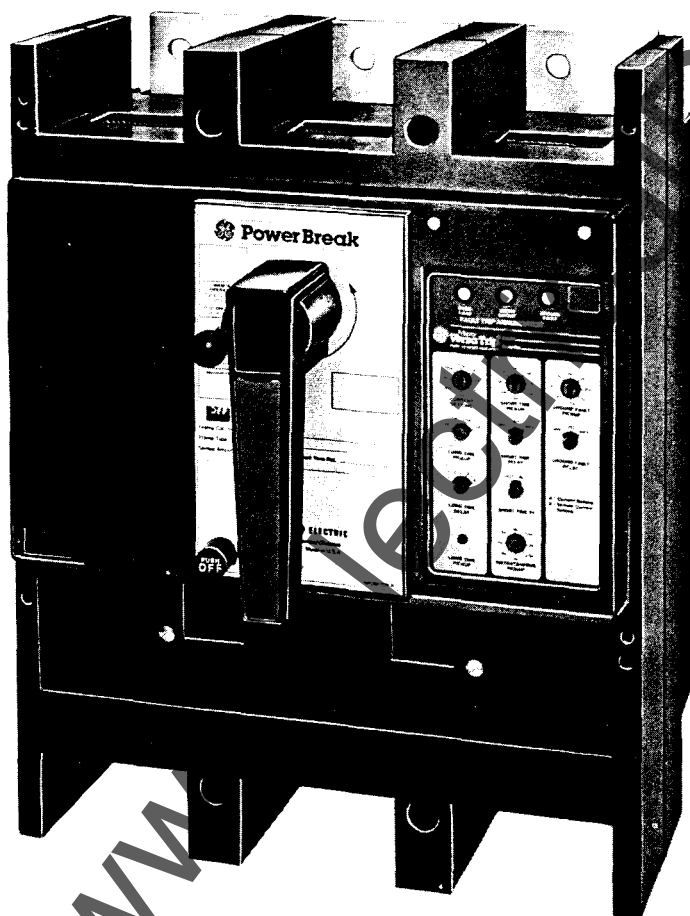

FIG. 17. MANUAL CIRCUIT BREAKER
1. Cover Removal-Manual Breaker (Fig. 17).
- Position handle at the home position (6 o'clock) on the outer cover. Align outer cover mounting screw holes with those of the inner cover and install four cover mounting screws, see Figs. 17 and 18. Secure with 50 to 60 inch pounds torque.